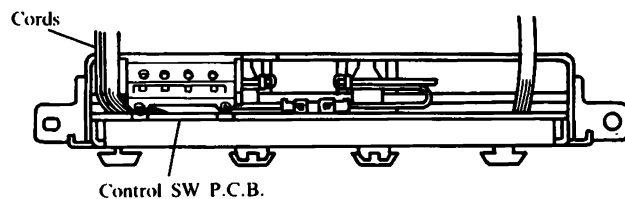

Fig. 65
- (2) Another end of each cord connected with the Control S.W. P.C.B. should be inside of the Head frame and the cords should be along by the Row counter. (Refer to Fig. 65)